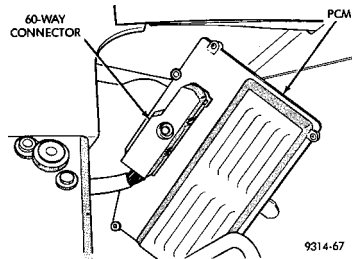

Fig 5
3. Lift SBEC up. Disconnect SBEC 60-way connector (Fig. 5).